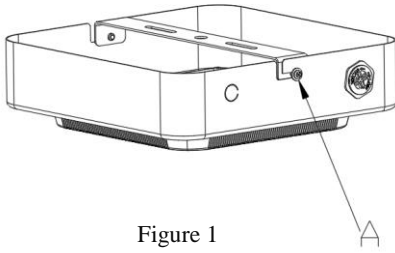

Figure 1
- STEP 1.** Distort the bracket screws A(see Figure 1).